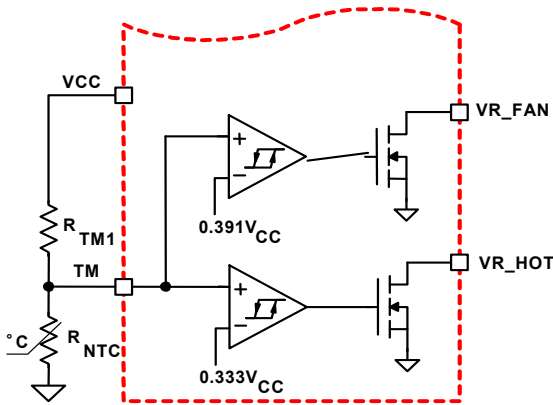
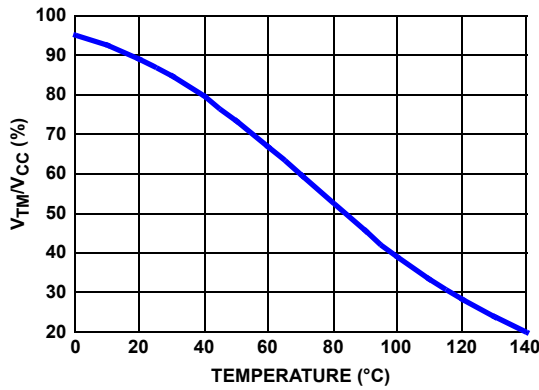

FIGURE 15. BLOCK DIAGRAM OF THERMAL MONITORING FUNCTION
FIGURE 16. THE RATIO OF TM VOLTAGE TO NTC TEMPERATURE WITH RECOMMENDED PARTS
The diagram of thermal monitoring function block is shown in Figure 15 on page 21. One NTC resistor should be placed close to the power stage of the voltage regulator to sense the operational temperature, and one pull-up resistor is needed to form the voltage divider for the TM pin. As the temperature of the power stage increases, the resistance of the NTC will reduce, resulting in the reduced voltage at the TM pin. Figure 16 on page 21 shows the TM voltage over the temperature for a typical design with a recommended  $6.8\text{k}\Omega$  NTC (P/N: NTHS0805N02N6801 from Vishay) and  $1\text{k}\Omega$  resistor RTM1. We recommend using those resistors for accurate temperature compensation.
Based on VCC voltage, the ISL6334D converts the TM pin voltage to a 6-bit TM digital signal for temperature compensation. With the non-linear A/D converter of ISL6334D, the TM digital signal is linearly proportional to the NTC temperature. For accurate temperature compensation, the ratio of the TM voltage to the NTC temperature of the practical design should be similar to that in Figure 16 on page 21.
1. Properly choose the voltage divider for the TM pin to match the TM voltage vs temperature curve with the recommended curve in Figure 16.